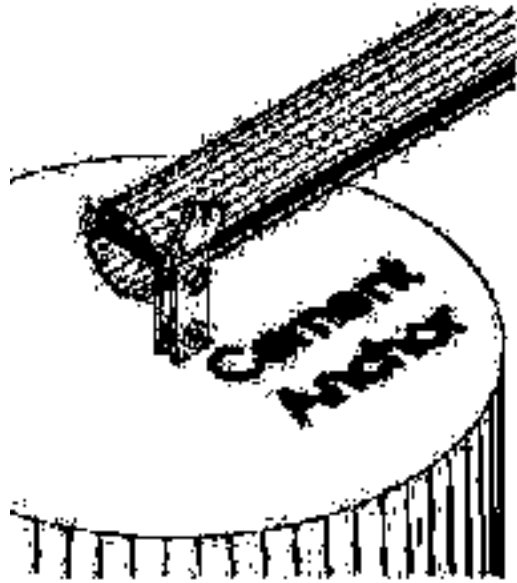
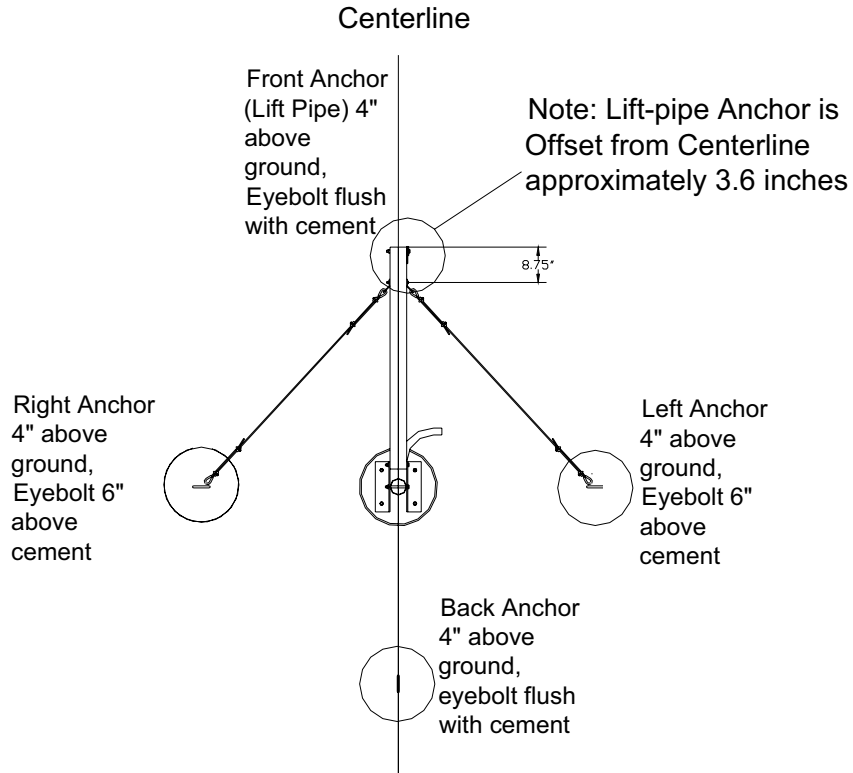
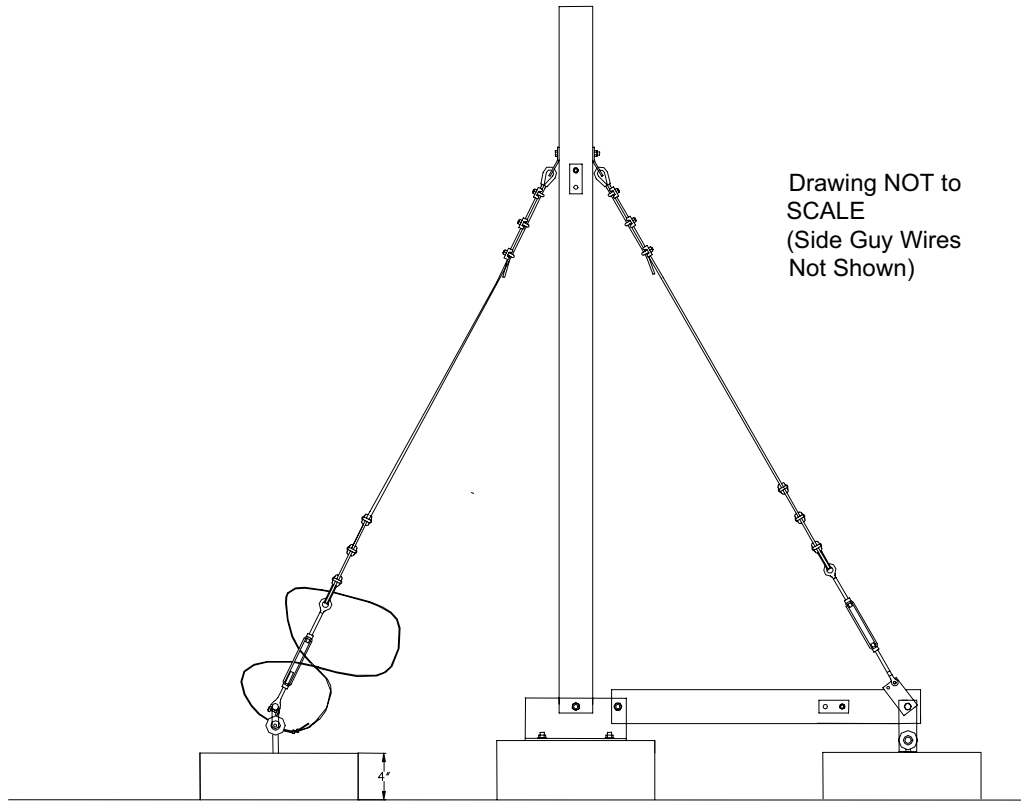

Figure 4.1: Lift-Pipe Anchor Angle View
Figure 7: Birdseye View of Anchors and Lift-Pipe (Ginpole)
Figure 8: Tower Assembly Side View
This tower kit must only be erected on a calm day (no wind). The tower base and anchors should be laid out as described in Figure 2 and Figure 7. **The tower will be assembled laying on the ground and then tilted up into position.**
Carefully study *Figure 2 and Figure 7* to help you determine how much space you will need to raise your tower, which is pulled up from the lift anchor. Be especially aware that the concrete anchors are 4 inches above ground level. The lift anchor is slightly off-center (3-4 inches) in order to be assembled with the metal links. Keep both things in mind while you dig and build your concrete anchors.
The base anchor should be 6 inches above ground level. The four guy wire anchors should be 4 inches above ground level (see Figure 2). The two side anchors should have the center of the 3/4" x 12" eyebolt located **6 inches** above the top of the concrete anchor (see Figure 4.3). The backside anchor and the lift-pipe anchor should have the center of the 3/4" x 8" eyebolts **1.5 inches** above the concrete anchor (see Figure 4.2). The lift anchor has hardware and plates that connect it to the lift-pipe anchor (see Figure 4.1 and 4.2), and if you do not level the anchors appropriately you will have problems installing the kit. Also, the anchor for the gin pole is offset to the side between 3 and 4 inches to accommodate the linkage hardware (see Figure 7). See Figure 4.2 and Figure 8 for details.
- Fasten the three steel plates to the gin pole with the 7/8" x 8" hex bolt as shown in Figures 4.1 & 4.2.
- Attach the side anchor guy wires to the gin pole as shown in Figure 7.
Figures 7, 8, 9.1 and 9.2 show details on how the guy wires should be assembled. Make sure you measure the length of the guy wires correctly, otherwise they will not be the proper length and you will spend much time resetting them.